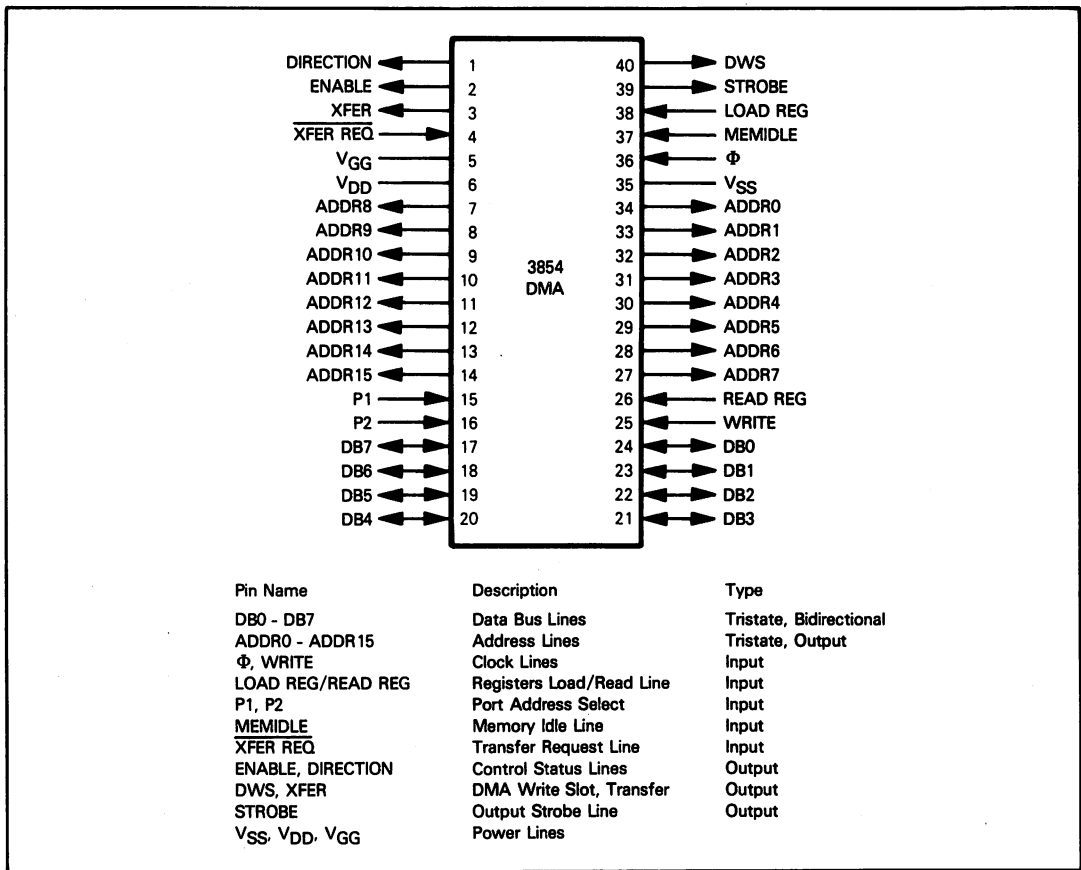

Figure 2-14. 3854 DMA Signals and Pin Assignments
**This device receives memory access period identification signals output by the 3852 DMI. Based on the direct memory access requirements specified by the currently executing program, the DMA device accesses read/write memory, during available memory access periods, as defined by the 3852 DMI. Figure 2-14 illustrates 3854 DMA pins and signals.**